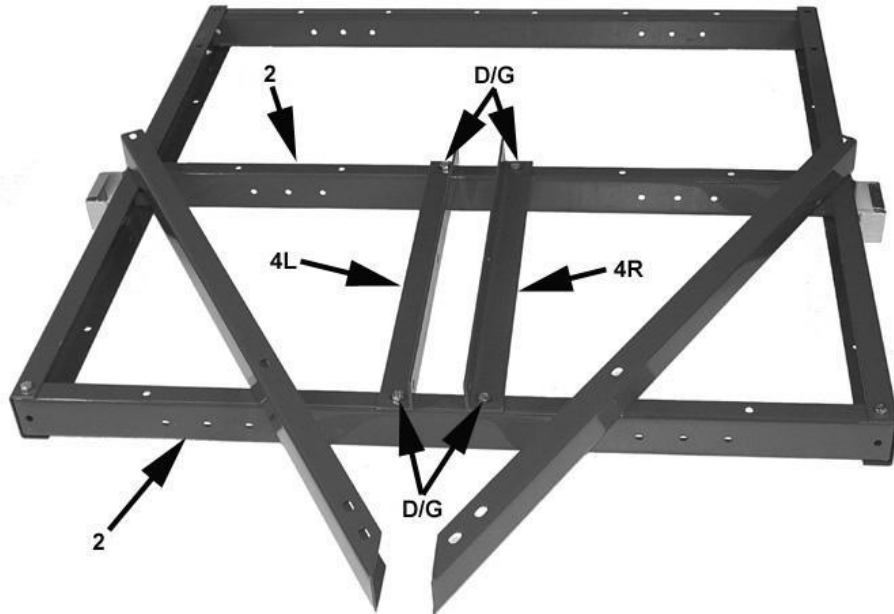

Figure 2-2
6. Position left tow bar bracket (4L) and right tow bar bracket (4R) on cross members (2) and connect with M10 x 20 bolt (D) and M10 nylon locknuts (G). See figure 2-2.